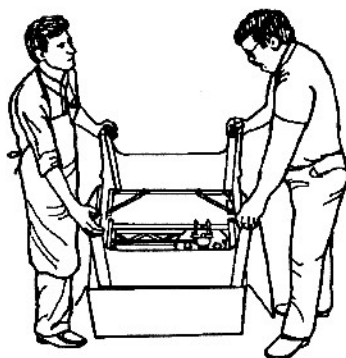

Fig. 22
33. With a friend helping you, turn the machine on its side, as seen in Fig. 22.